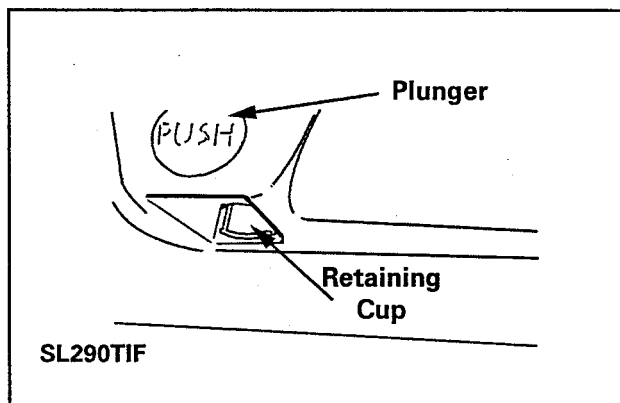

Figure 4-14
1. Locate the locking clip below the dispensing button (*Figure 4-14*).